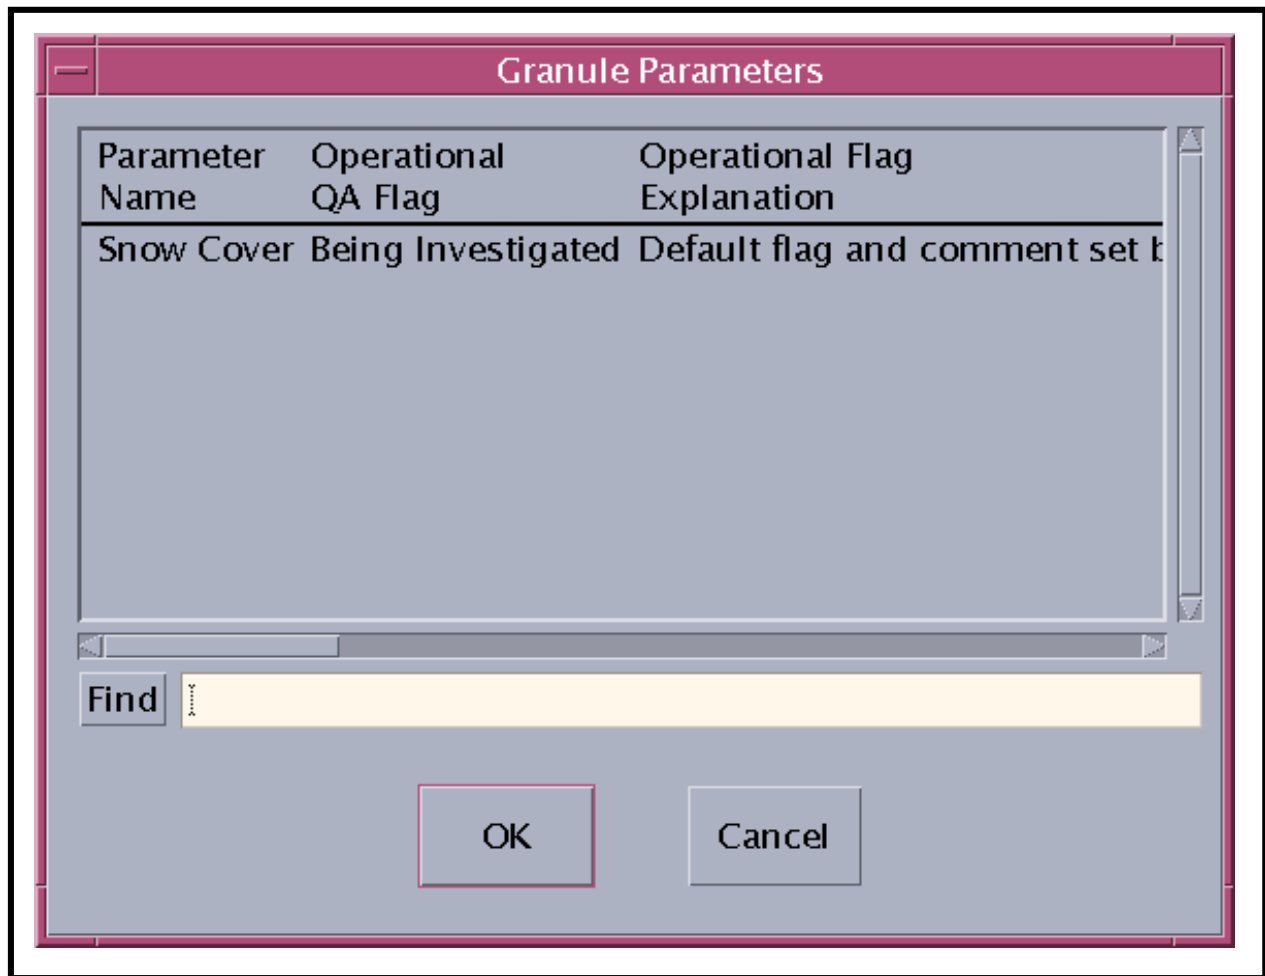

Figure 61. QA Monitor Granule Parameters Window
- The **Granule Parameters** window (Figure 61) is displayed.